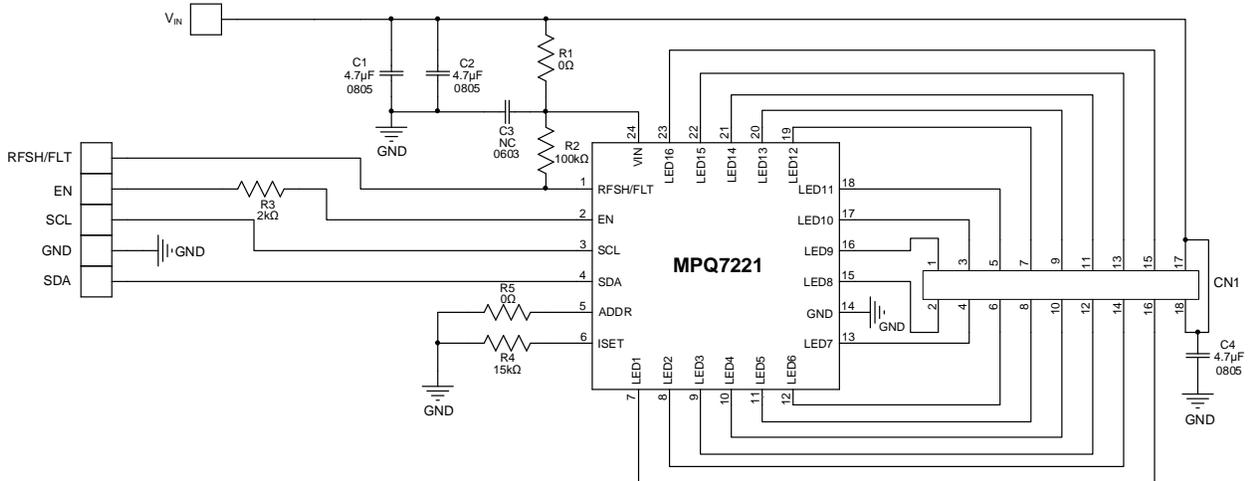

Figure 9: Typical Application Circuit ($I_{LED} = 80\text{mA/Channel}$)
- 9) The recommended layout is based on Figure 9 on page 35.